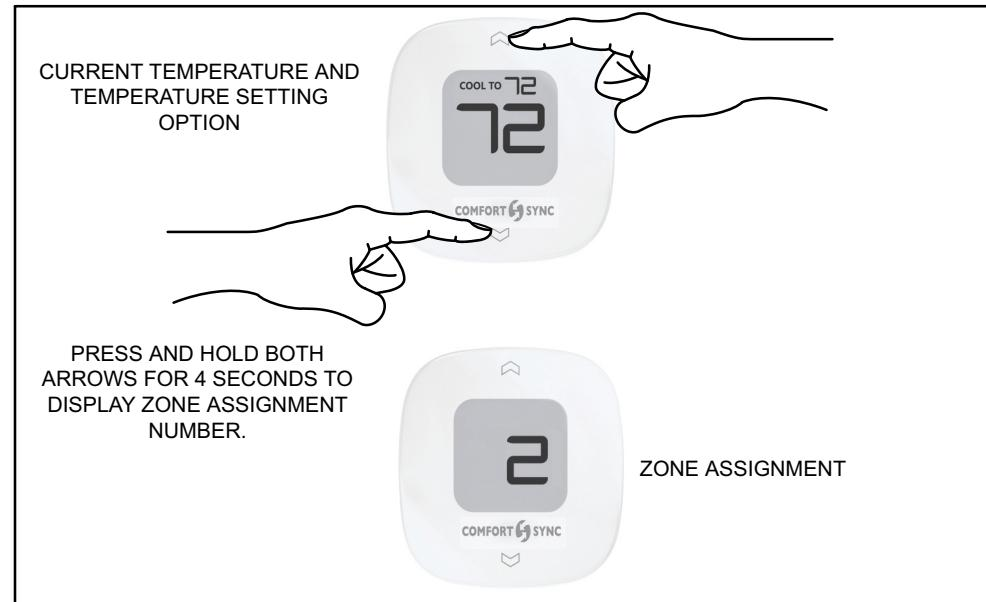

Figure 5. Displaying Zone
1. When powered on, the In-Zone Sensor will display the default zone setting for 2 seconds (see figure 5) before displaying the heating and/or cooling temperature setting. If the device is unable to communicate with the damper control module, two dashes will appear (see figure 8, display A).